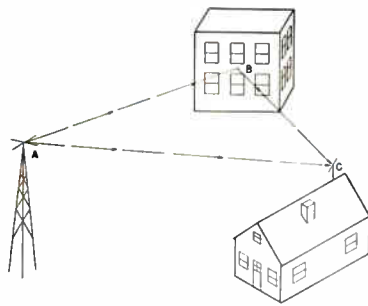
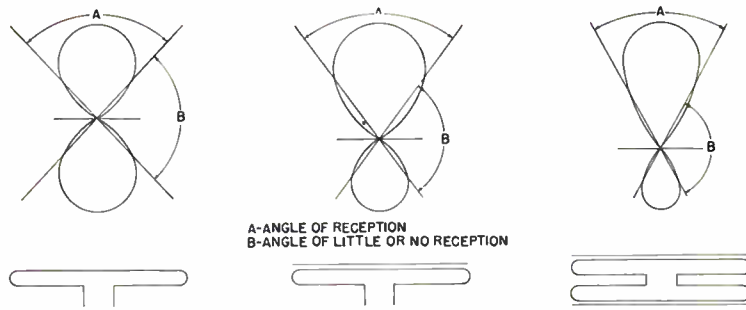

Figure 2. Receiving antenna "C" would pick up both direct signal from "A" and reflected signal from "B" resulting in "ghost."
Figure 3. Average signal lobes for three different types of antennas.
The appearance of a "ghost" on the television screen will present a problem which can usually be solved by following a general procedure. We know that a "ghost" represents a reflected television signal which arrives at the receiver at a slightly different time than the direct television signal. Figure 2 illustrates the path of a reflected signal which would result in a pattern similar to the one shown in Figure 1A.
For best reception, dipole type antennas must be broadside to the direction of the television station. The field pattern curves, shown in Fig. 3, illustrate approximately the changes resulting from the addition of (1) a reflector
It can be seen from Fig. 3 that the angle indicated by peak signal strength of the direct wave as compared with peak signal strength of the reflected wave will determine the type of antenna which should be used. The narrower the angle, the more difficult the problem. The "ghost" which would appear as a result of the reflected wave in Fig. 2 would be eliminated if the antenna could be rotated so that the direction of the reflected wave was within the angle of little or no reception (Fig. 3) without reducing the signal strength of the direct wave below a usable level. The angle between the direct wave and the reflected wave can usually be determined by rotating the antenna and noting the points of best reception for the image and the "ghost." This will provide a rough indication of the type of antenna which is required. However, it may still be necessary to use the next best type before a satisfactory picture is received.
In some cases it may be necessary to use the reflected wave rather than the direct wave. This would be the case in Fig. 2 if a building were placed between points A and B. The direct signal would be effectively blocked and the only usable signal would be the one reflected from point B. The antenna would then be oriented for the best reception of the reflected signal.